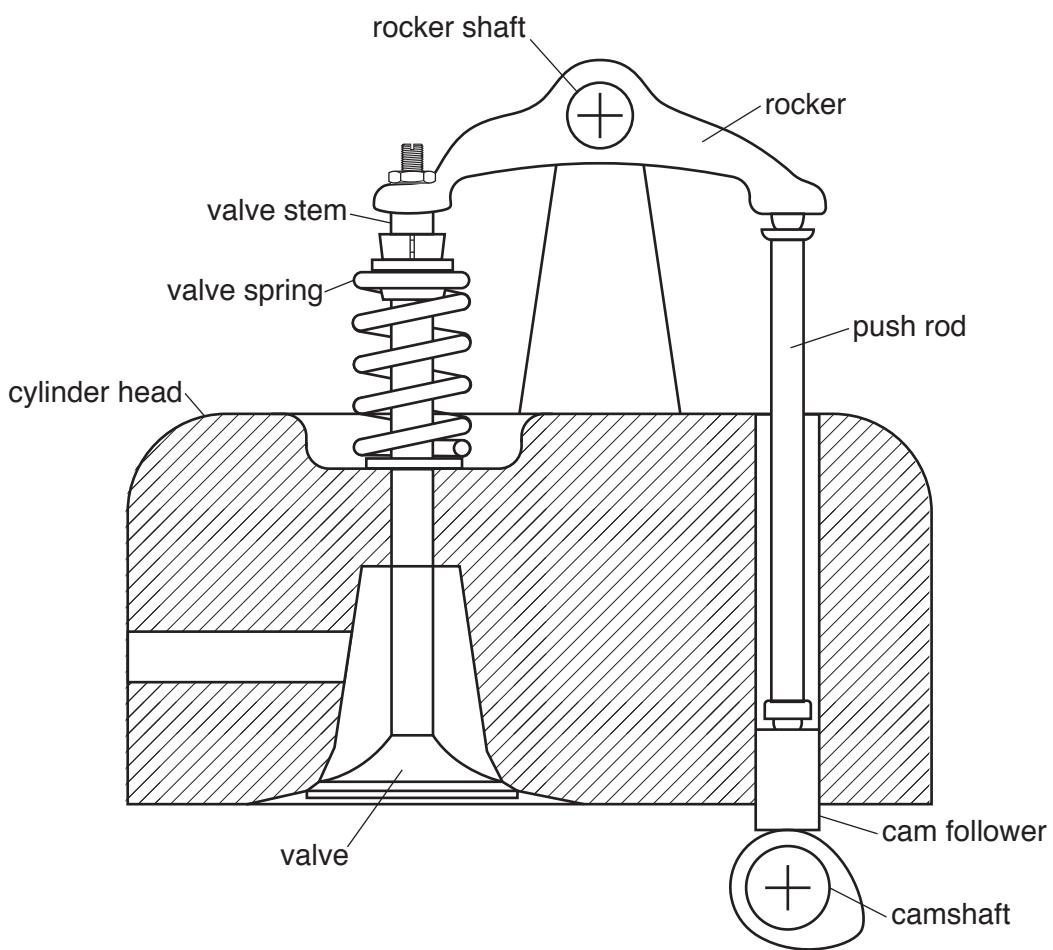

Fig. 10
- (d) (i) Part of the cylinder head of an engine is shown in Fig. 10.